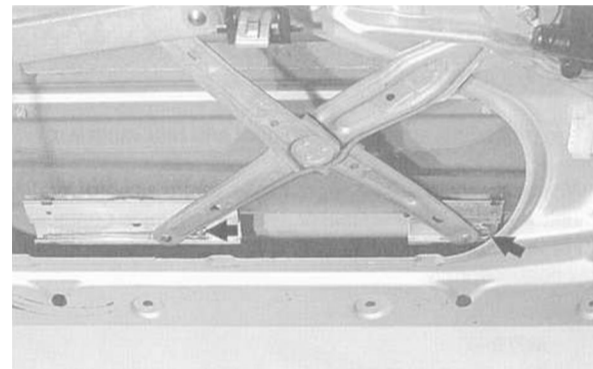

Fig. 8. Retaining clips for window slides (arrows);
3. Remove retaining clips from window slides. See Fig. 8.